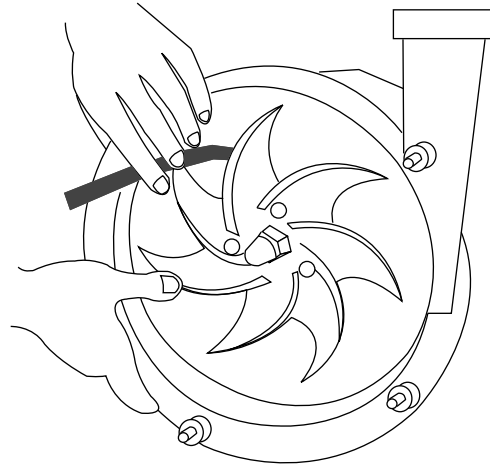

Fig. 21 Impeller-housing clearance
1. Measure the impeller/casing clearance with feeler gauge (Fig. 21 "Impeller-housing clearance", page 18).